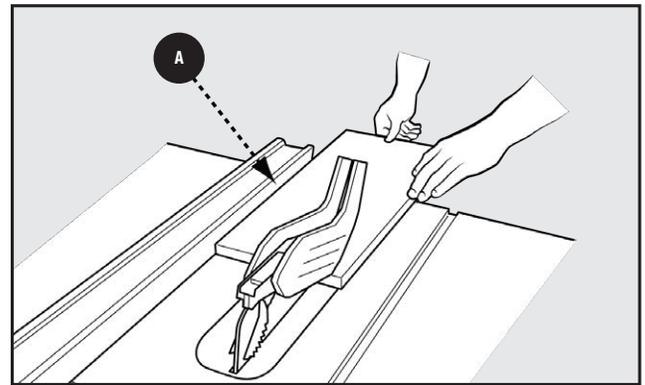

Figure 56
8. Hold the workpiece flat on the table and against the fence **A**. The workpiece **MUST** have a straight edge against the fence and **MUST** not be warped, twisted or bowed. See proper hand position in Figure 56.